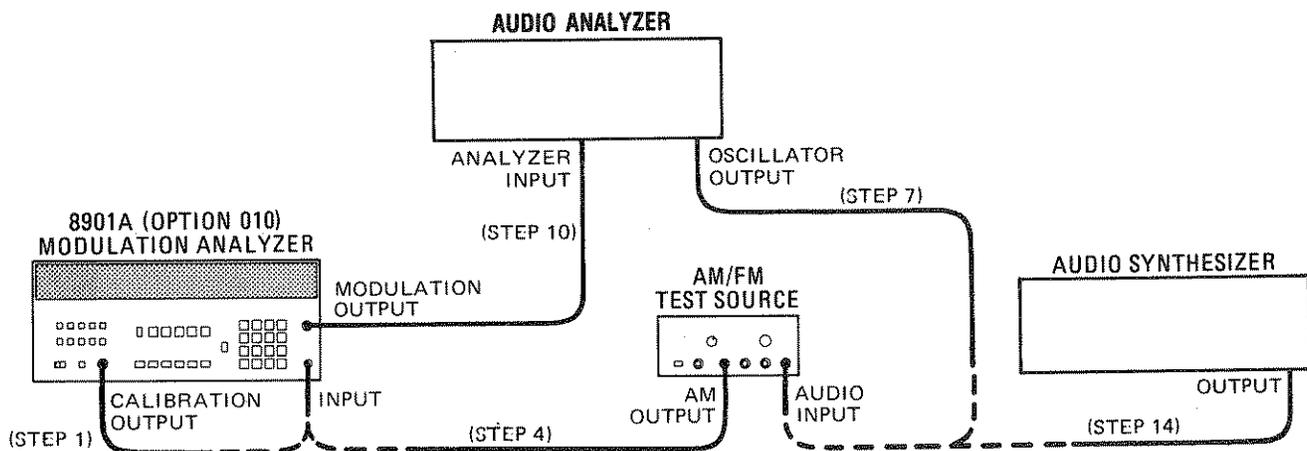

Figure 4-1. AM Performance Test Setup (for HP 8901A Equipped with Option 010)
4. On the AM/FM test source, set the test mode switch to AM. Connect the test source AM output to the Modulation Analyzer's INPUT. (See figure 4-1. Nothing should be connected to the test source's audio input.)
- 7. Set the audio analyzer's source to 20 kHz. Connect its output to the audio input of the AM/FM test source. (See figure 4-1.)
- 10. Connect the audio analyzer's input to the Modulation Analyzer's MODULATION OUTPUT. (See figure 4-1.) Set the audio analyzer to measure the distortion on the 20 kHz signal at the MODULATION OUTPUT with 80 kHz of low-pass filtering (on the audio analyzer). The distortion should be 0.3% or less (-50.5 dB or less).
- 14. Set the audio synthesizer to 1 kHz at +5 dBm. Connect its output to the audio input of the AM/FM test source. (See figure 4-1.) Fine adjust the audio synthesizer level for a Modulation Analyzer display of 80% AM.